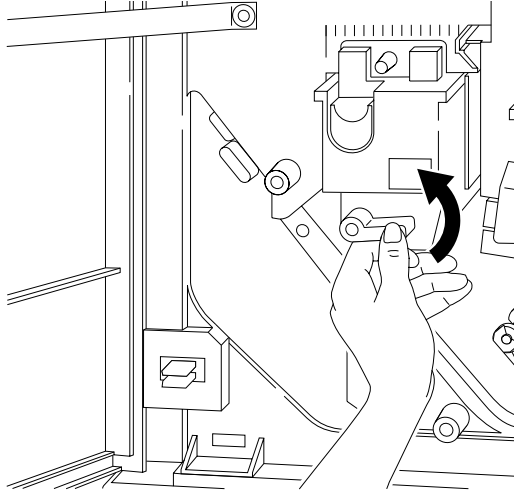

Figure 3-59 Closing Lever 4
5. Turn Lever 4 fully counterclockwise back into the closed position, as shown in Figure 3-59, and close the door.